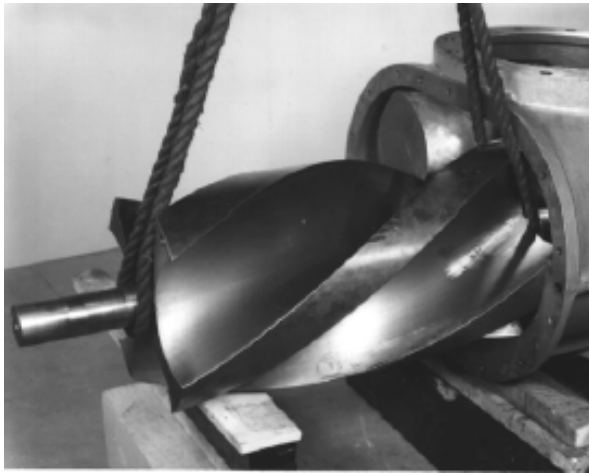

FIGURE 6-10 – ROTOR REMOVAL
10. When the rotor shaft is free of bearings, work the rotor through the housing and rig a sling to complete removal of the rotor from the housing, (FIGURE 6-10, page 39). Handle with care to prevent burrs on rotors and housing.